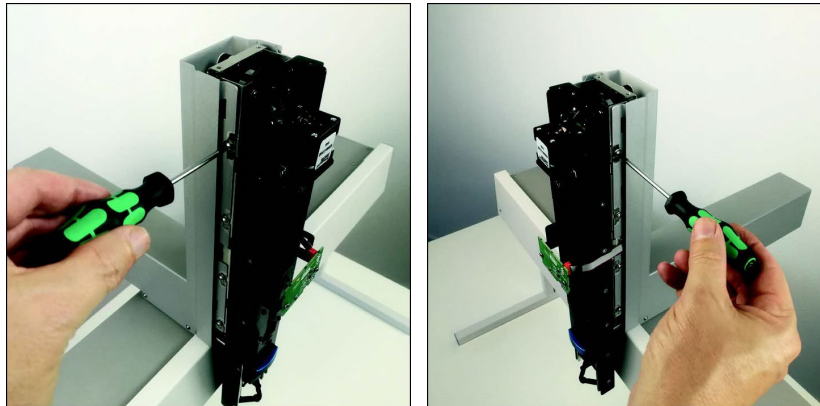

Figure 87: Rear Tower Cover Screws
1. Using a Torx Tx10 screwdriver, loosen four screws at the right and left sides of the tower (eight screws total). See Figure 87.